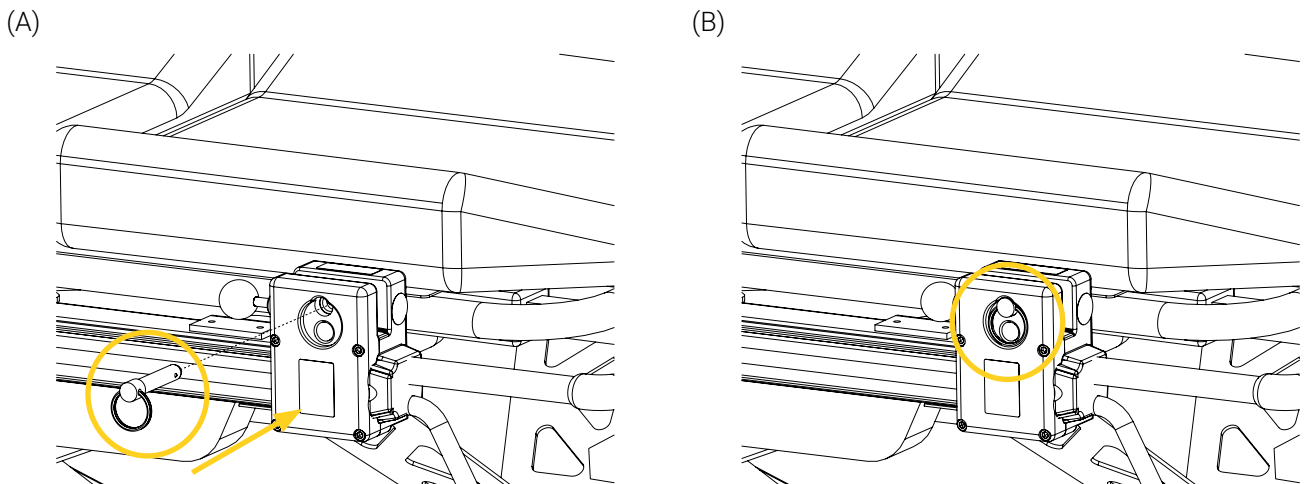

Figure 13: Reinserting the lock pin in the clamp block
5. Reinsert the lock pin in the clamp block (Figure 13).